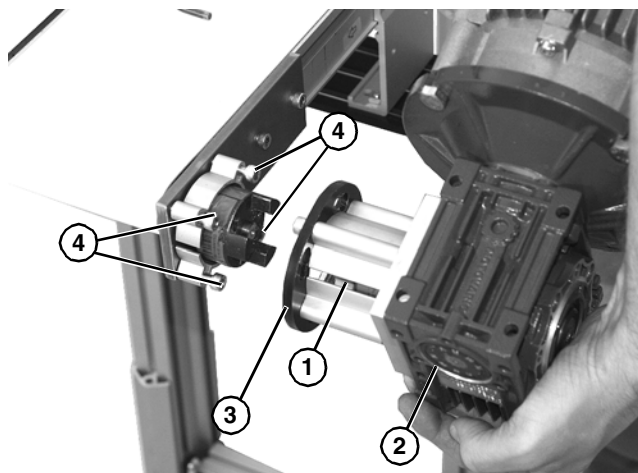

Figure 7
8. Install spider bushing (**Figure 7, item 1**) in mating female portion of three jaw coupling on gearmotor assembly (**Figure 7, item 2**).
9. Slide and pivot gearmotor and gearmotor mounting ring (**Figure 7, item 3**) onto four M6x30 mounting screws (**Figure 7, item 4**) (through slots in gearmotor bracket).